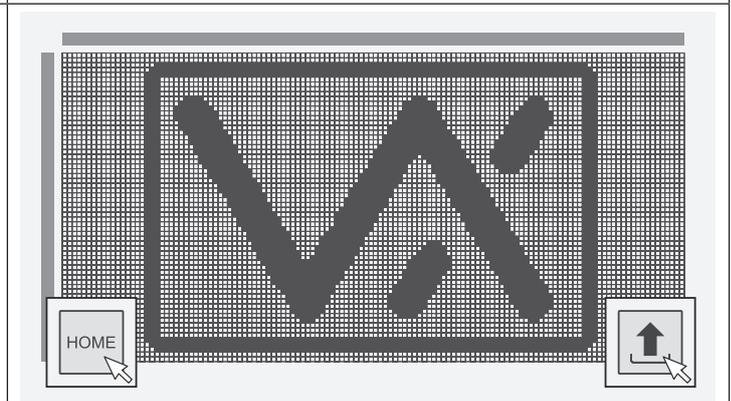
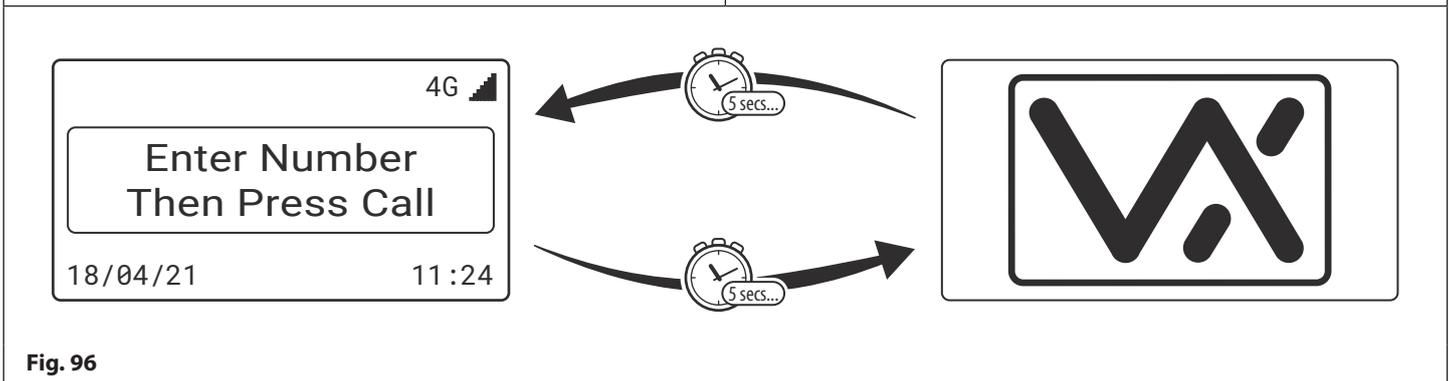

Fig. 95
Fig. 96
- Click on the home screen icon again to toggle back to the imported image/logo from step 1 and then click on the upload to panel icon, as shown in **Fig.95**. This image/logo will be uploaded back into the panel (including any edits made to it from step 6).
After the display switch time has elapsed it will then switch to the 2nd home screen (i.e. the company logo that was uploaded from **Fig.95**) and then switch back again to the new default home (welcome) screen and so on, as shown in **Fig.96**.